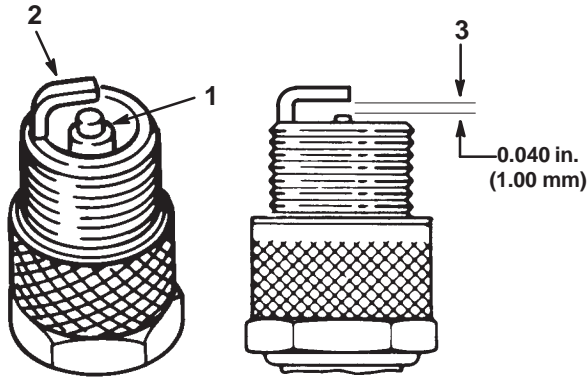

Figure 30
1. Look at the center of the spark plug(s) (Fig. 30). If you see light brown or gray on the insulator, the engine is operating properly. A black coating on the insulator usually means the air cleaner is dirty.
2. Check the gap between the center and side electrodes (Fig. 30). Bend the side electrode if the gap is not correct (Fig. 30).